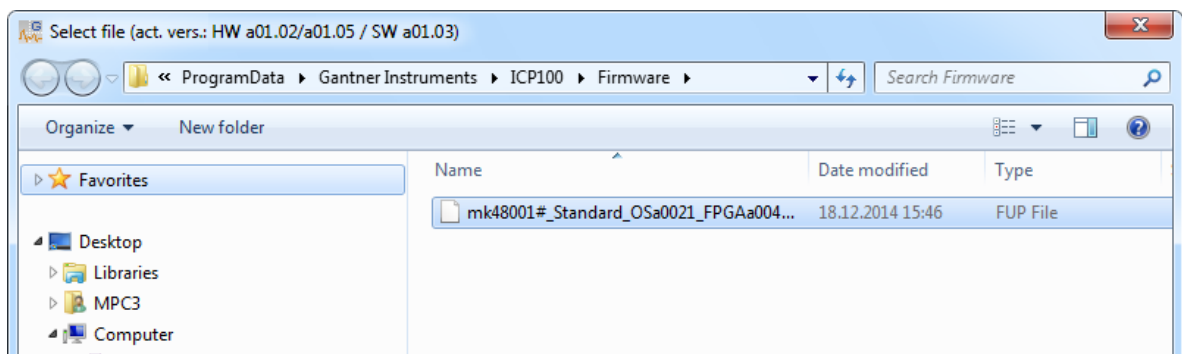

Fig. 6-17 Selecting the firmware.
3. Select the file with the firmware (there is only one suitable for the module and where several are available the relevant latest version is displayed) and click on **Open** (Fig. 6-17).